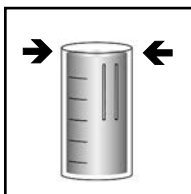

Figure 1
1. Fill the dilutor snapper cup to the -ml mark with **distilled water** (fig. 1).